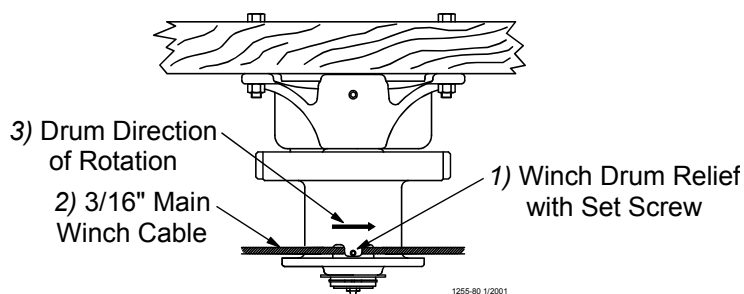

Figure 11. Attaching the Cable to the Power Winch
4. Route the cable through the winch drum relief located near the bottom of the drum. Tighten the set screw to anchor the cable to the drum. See **Figure 11**.